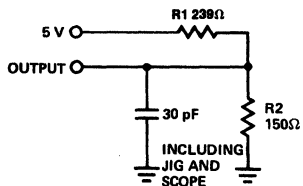

Figure 1a
- tAA, tACS and tAWE are tested with CL = 30 pF as in Figure 1a. Timing is referenced to 1.5V on the inputs and outputs.